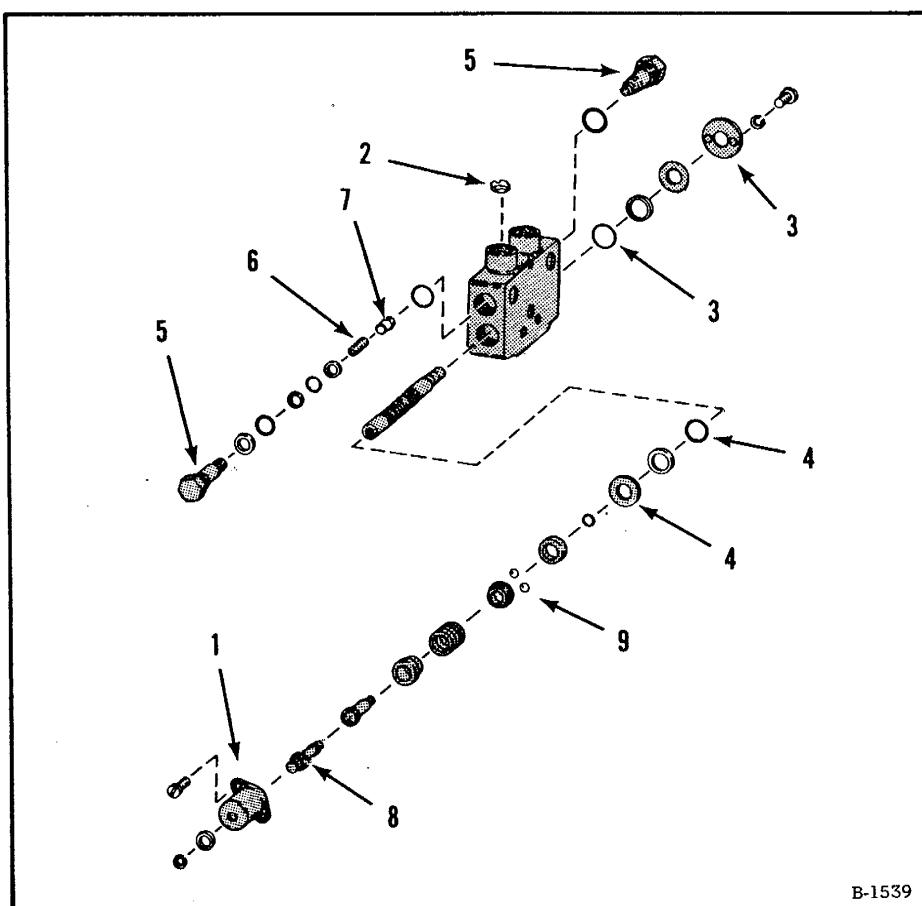

Fig. 2-26 Lift Valve Section with Detent
(6) Remove the bonnet from the back of the section (Fig. 2-26, Item 1).